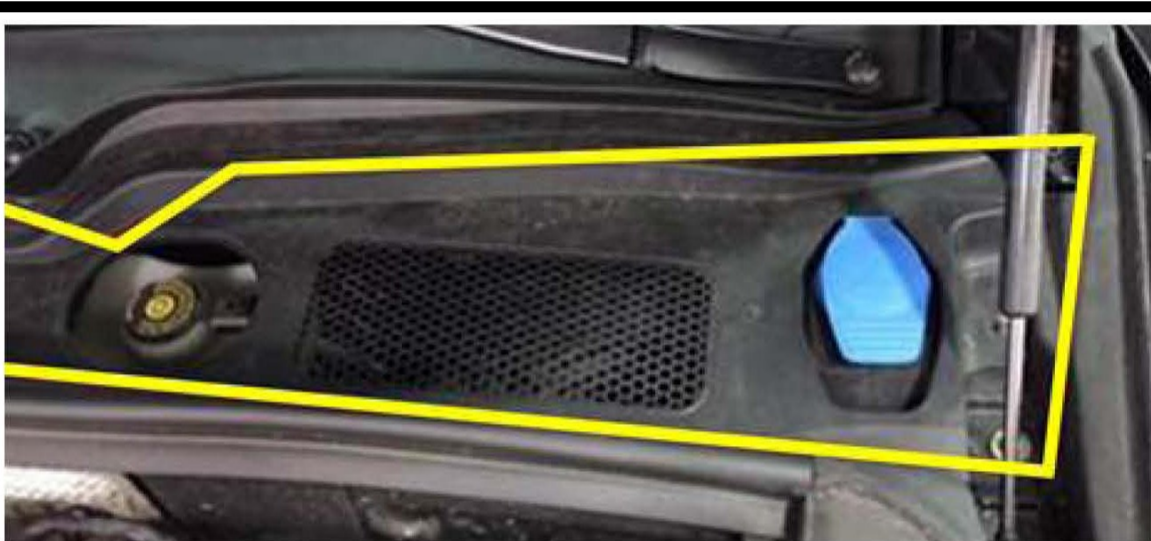

Figure 2. Plenum cover.
3. Remove the plenum cover (Figure 2).